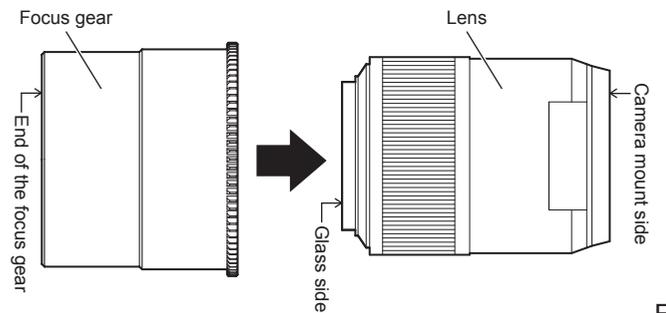
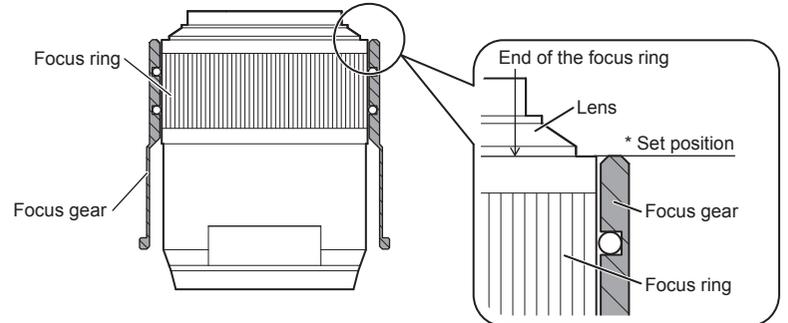

Fig.1
Fig.2
- 2 Place the focus gear (this product) straight onto the lens from the glass side of the lens (fig.1), and shift the focus gear until the end of the gear comes to be in the same position as the end of the focus ring on the lens to attach the focus gear (fig.2)**